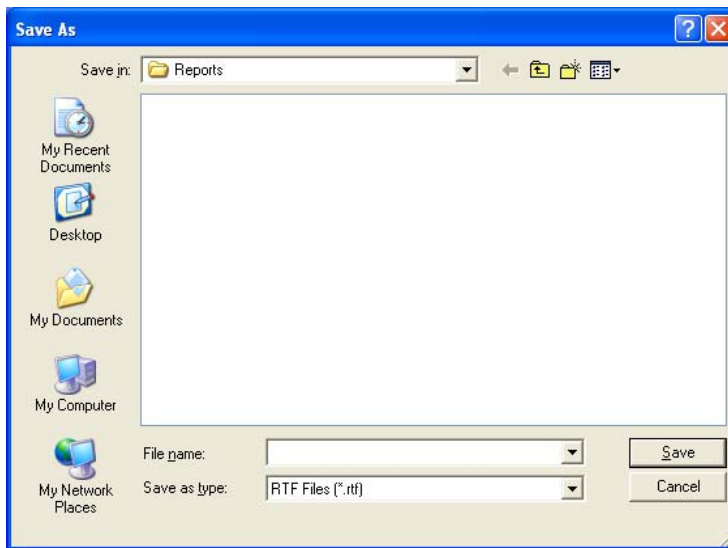

Figure 10-80
- To save the report on the screen, click the  button or press **ALT+S**. The Save As box appears as in Figure 10-80. Reports are saved as an RTF file in the Captus3000\_2\Reports\ folder by default.